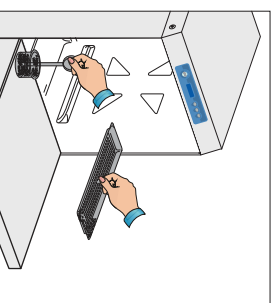

Fig. 1
1. Check if the pump suction filter is properly inserted in its seat on the wash tank bottom (Fig.1). This filter must be cleaned every 20 wash cycles or whenever necessary. ***Do not use the appliance without the filters.** Put the surface filters in place (Fig.1), shut the dishwasher door, turn the water valve open and turn the main power switch on. Insert the green rinse aid dispenser tube in the rinse aid container and the clear line into the detergent bottle (if fitted).